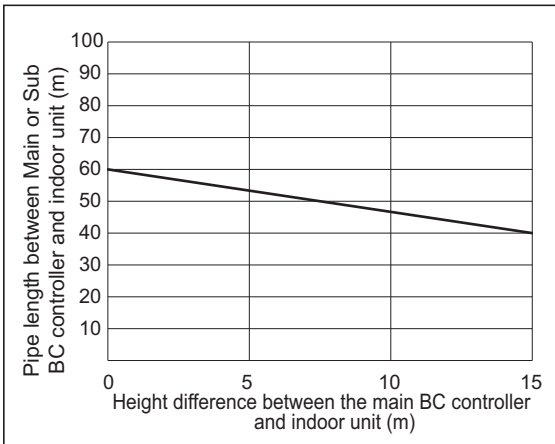

Fig. 2
- \*2. Details refer to Fig. 2.
- \*9. When the piping length or the vertical separation exceeds the limit specified in Fig. 2, connect a sub BC to the system. The restriction for a system with a sub BC connection is shown in Fig. 3. When a given system configuration falls within the shaded area in Fig. 3, increase the size of the high-pressure pipe and the liquid pipe between the main BC and sub BC by one size. The maximum liquid branch pipe diameter is ø19.05. If a given system already has a ø19.05-pipe between the main BC and sub BC, there is no need to increase the pipe size. When using M32, M40, M50, M100, or M125 model of indoor units, increase the size of the liquid branch pipe between the sub BC and indoor unit by one size. When using indoor models M140 or larger, the restrictions shown in Fig. 2 cannot be exceeded.
\*9. When the piping length or the vertical separation exceeds the limit specified in Fig. 2, connect a sub BC to the system.
When using indoor models M140 or larger, the restrictions shown in Fig. 2 cannot be exceeded.